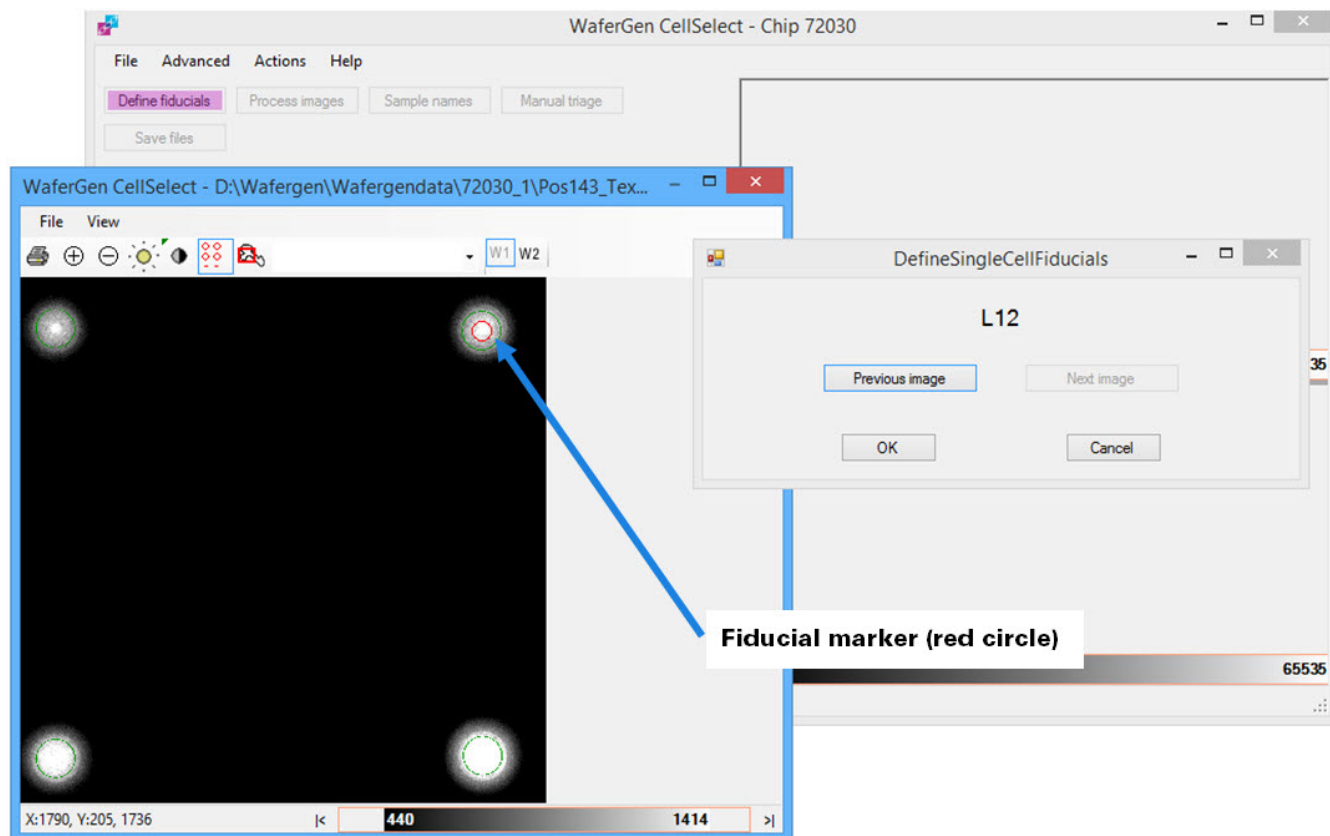

Figure 8. Inspecting and adjusting fiducials.
- b. If the green circles are not centered properly, click on the nanowell centers with the mouse pointer (changes to red circle; see Figure 8, above).